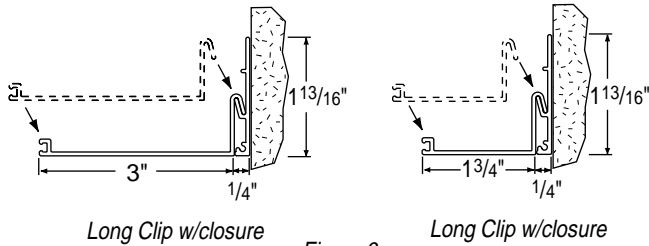

Figure 6
- 2 Drill holes and attach clips for removable closure panel (See Fig. 6).